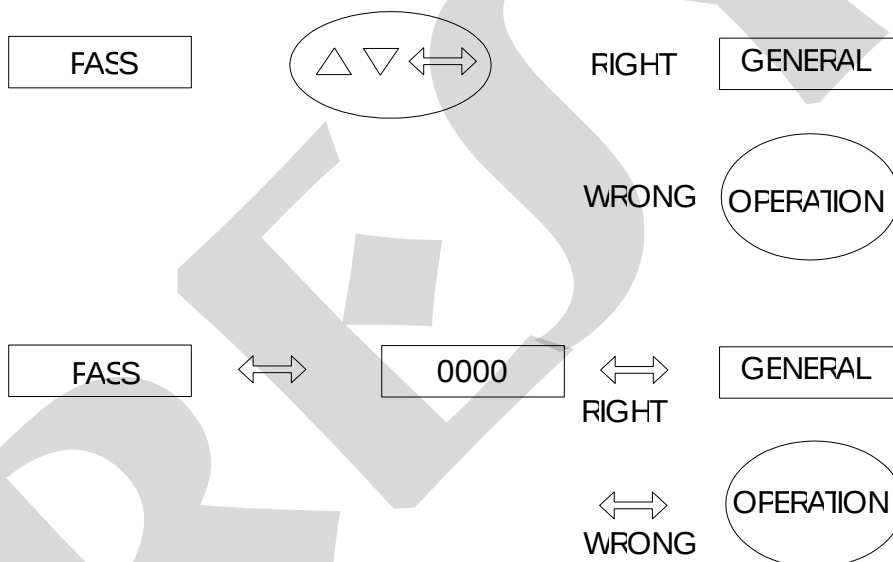

Fig. 11 - Password system by key and by value
- The display shows the password warning, indicating that the instrument is provided with a password system which can be either by key or by value, as illustrated on figure 11.
In the case of password by value the user should press the ENTER key a second time to obtain the display of number 0000 with the last digit flashing on the right. The flashing digit indicates the position where the digit of a 4-digit number will be entered by the user. In order to move to the other digits to the left of the number one should press the ENTER key. After entering all digits, press once more the ENTER key to switch to level 1 in case the password is correct; otherwise, the system reverts to normal operation (see figure 11).